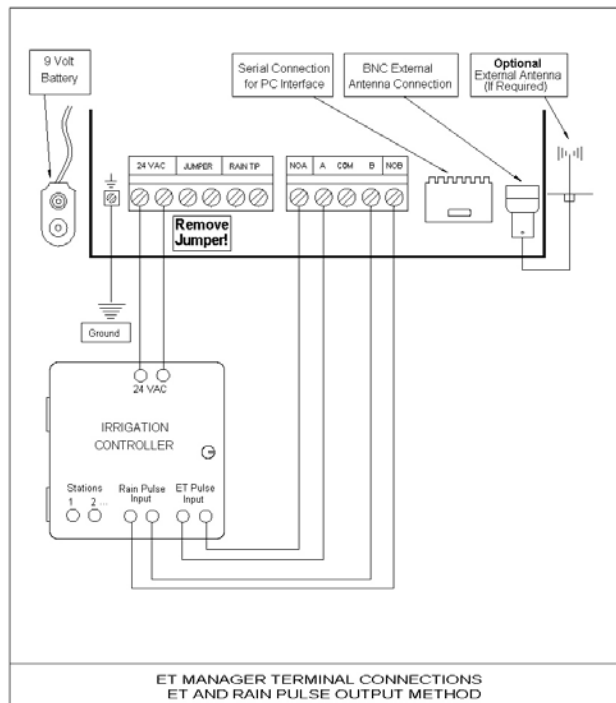

Figure 16. ET Manager Terminal Connections ET and Rain Pulse
- Your sprinkler controller, ET Manager, and valves must be installed correctly, see Figure 16.